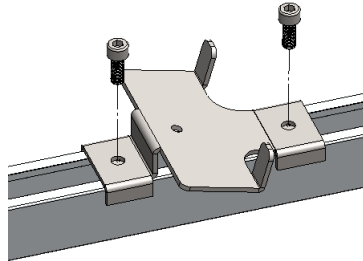

Figure 6
4.3.1 Fix the Front Leg or Back Leg on MT-Rail along length direction and fasten with Bolts M8*20 as shown in Figure 6 and 7.